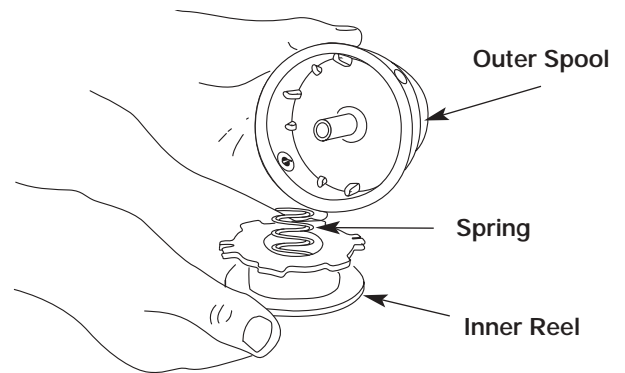

Fig. 28
2. Remove the inner reel from the outer spool (Fig. 28).
3. Remove spring from the inner reel (Fig. 28).
4. Use a clean cloth to clean the the inner reel, spring, shaft, and inner surface of the outer spool (Fig. 28).